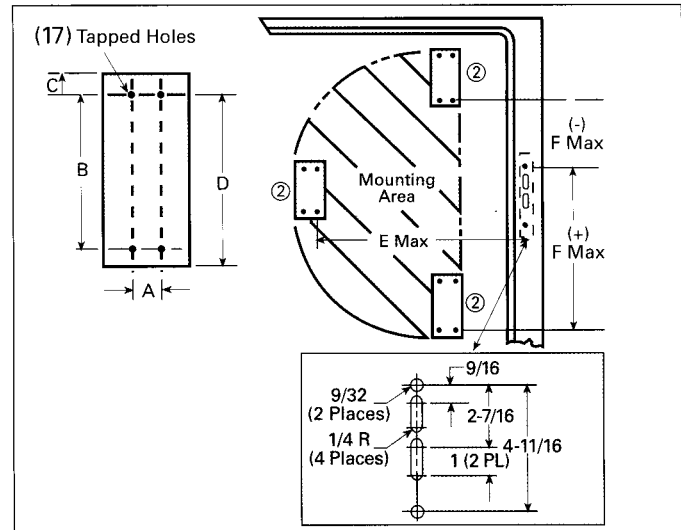
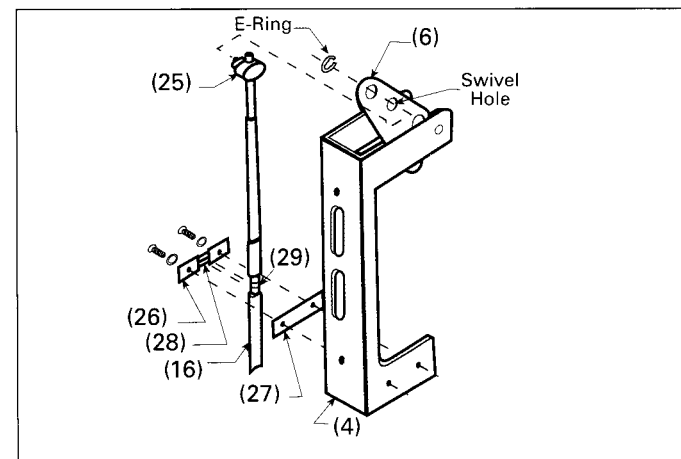

Figure 5
Figure 7
The circuit breaker can be mounted remotely from the handle within a range that is limited by the length of the operating cable (16) (Figure 7) and the depth of the enclosure. Table 2 and Figure 5 show the horizontal range **E** of the circuit breaker in 8 to 30" enclosures.
- Determine the desired circuit breaker mounting location using Tables 1, 2 and Figure 5.
- Drill and tap four mounting holes (17) in the enclosure back panel using dimensions **A** and **B** from Table 1.
- Remove the four terminal shield screws (18) and two terminal shields (19).
- Fasten circuit breaker to prepared mounting surface using four breaker mounting screws (20).
- A. To attach the operating cable (16) to the frame assembly (4), move the operating handle (2) to the ON position and attach the cable swivel (25) to the outer hole of the bell-crank (6). Secure the connection with an E Ring (Figure 7).
- B. Secure the cable (16) to the frame assembly (4) by placing it between the cable retainer clip (26) and the shim (27), secure with two #10-32 x 3/8" screws and lockwashers. NOTE: Detent (28) in cable retainer must align with the groove (29) in the cable's metal fitting (Figure 7).